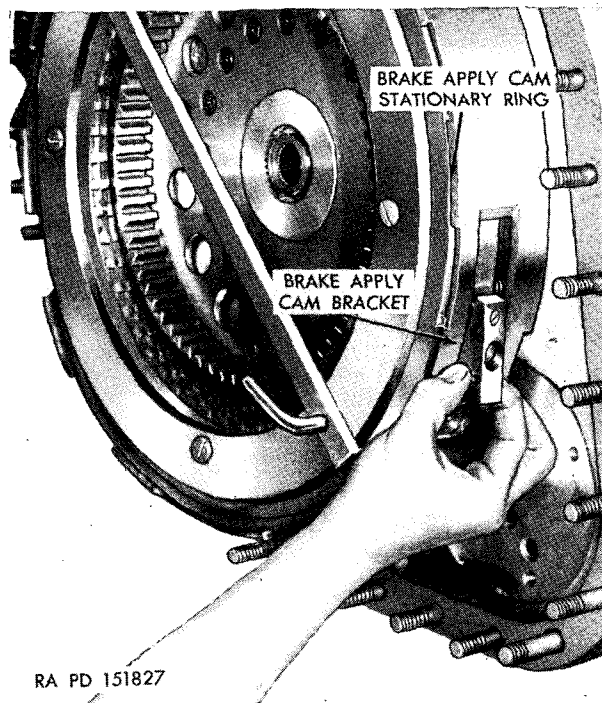

Figure 88. Removing or installing brake-apply-cam bracket.
- (8) Using a ½-inch wrench, remove two bolts from the brake-apply-cam bracket. Gently tap the bracket to loosen it and take it off the dowel pin (fig. 88).